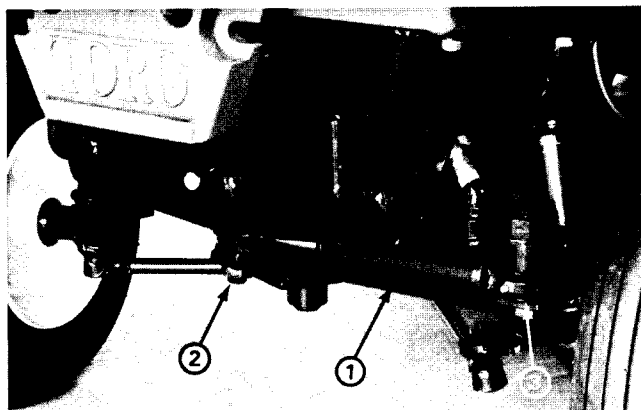

Figure 13
2. Remove the lock nut and cap screw securing the rod end of the cylinder to the steering pivot (Fig. 13).